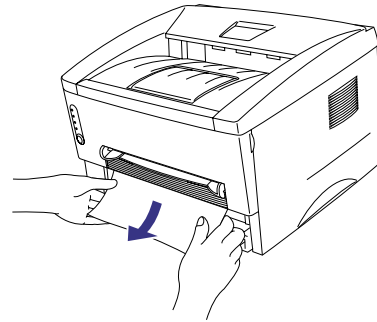

Fig. 6-2
- (1) Remove the paper cassette completely from the printer.
- (2) Pull any jammed paper up and out of the printer.(Fig. 6-2)
- (3) Open the front cover.